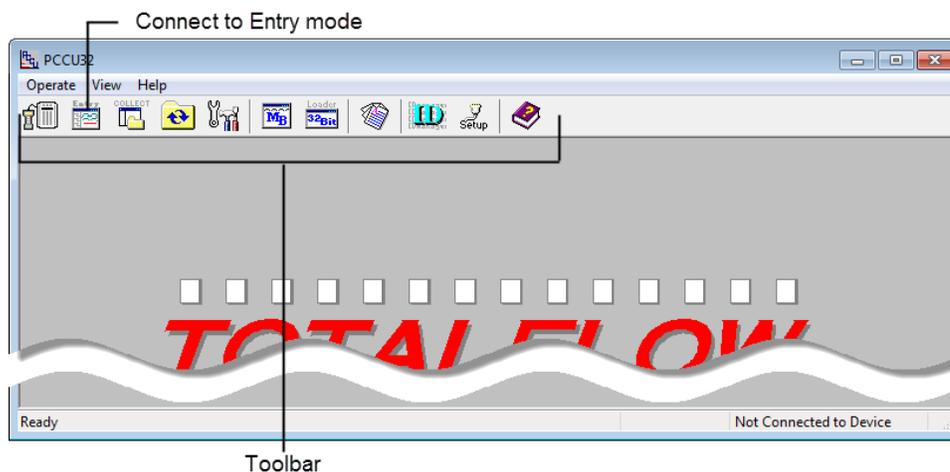
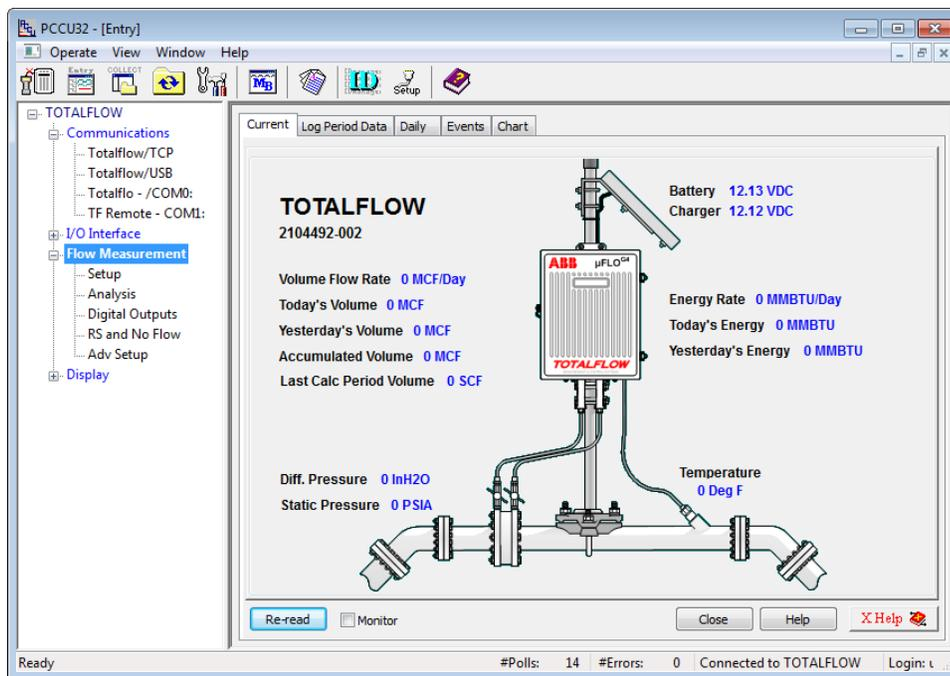

Figure 30: Local connection screen
Figure 31: User interface screen
5. Click the **Entry** icon on the PCCU32 toolbar (Figure 30) to connect to the flow computer and go directly to the **Entry mode** user interface (Figure 31).